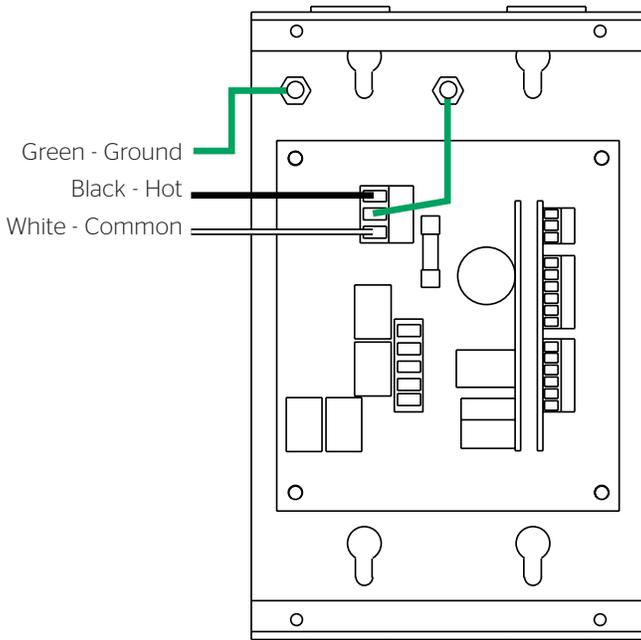

Figure 3 - Source Input 100-120 VAC
1. Connect power wires to the SCB-100 as shown in Figure 3.